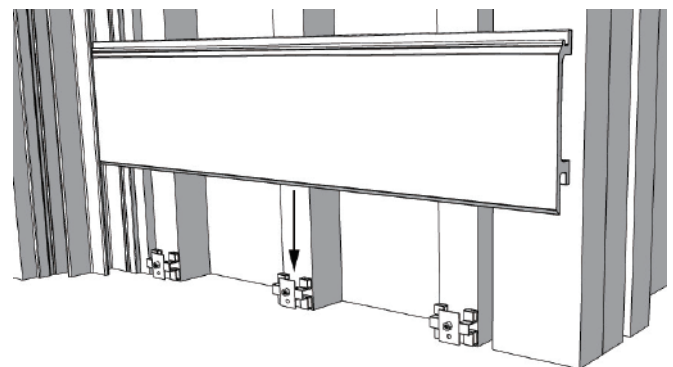

Fig4-1
1. Snap the wall cladding into the HLYC-016F recess and slide it downward to snap onto the wall cladding fitting. As shown in Figure 4-1: